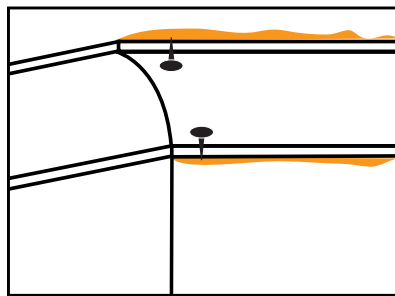

FIGURE 69 Position Cornice
- > Press the cornice into place and if necessary hold with temporary nails in the wall and ceiling along the edges of the cornice [Figure 69]